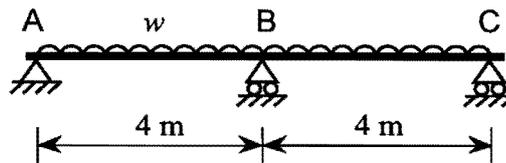

Figure 8
9. The two-span beam, ABC , shown in Figure 8 has been designed not to collapse when loaded with a distributed load, $w = 10$ kN/m. Show that a continuous beam with $M_p = 15$ kNm is a safe design.